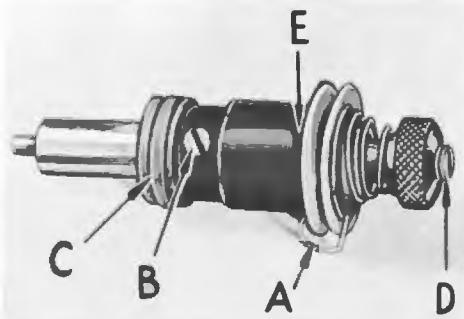

Fig. 17
Test check spring tension (A, Fig. 17). There should be enough tension to assure a good returning snap when spring is depressed and released. Should it require adjusting, loosen set screw in the head located under arm and to the right of tension assembly, and remove tension assembly. Partially loosen tension post set screw (B) in tension post socket (C). Turn the tension post (D) counterclockwise until the check spring moves away from the upper stop (E) and has no tension on it. Turn the tension post (D) in a clockwise direction until the spring again touches the upper stop (E). Then, proceed further in the same direction until the desired tension is obtained. When correctly set, the tension post set screw (B) should be drawn up snugly, yet not forcefully. Further adjustment of the check spring tension can be made by inserting a screwdriver into the slotted end of the tension post (D) and turning in the required direction.
Check the adjustment of tension assembly (A, Fig. 18A). Check spring tension. There should be enough tension to insure a good returning snap when spring (B, Fig. 18A) is depressed and released. The check spring tension is adjusted from about 1 to $1 \frac{1}{4}$ ounces when measured with a postal scale (C, Fig. 18A). This is measured when the check spring is $1/32$ to $1/16$ inch from its stop. The tension post set screw should be drawn up snugly but not forcefully tightened (B, Fig. 17). The tension release pin should move freely in the tension post (D, Fig. 17). The check spring eyelet (A, Fig. 18), located just below the tension discs, should be set for correct height as follows: